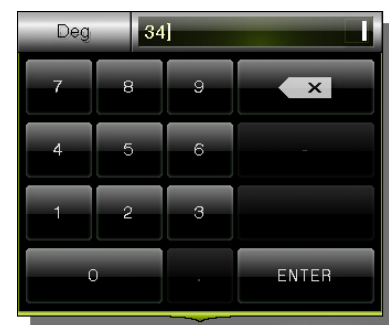

Figure 3–10. Editing Waypoint Coordinates (Latitude Degrees)
- Perform the following functions to edit the waypoint latitude minutes and seconds coordinates (refer to Figure 3–11)